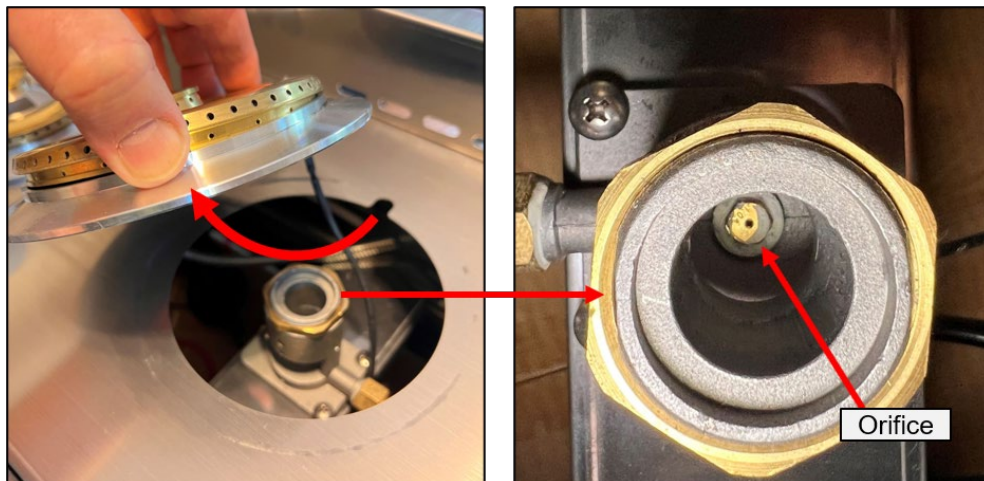

Figure 21 Remove Burner
4. Use a shallow 6mm socket and handle to reach into the burner opening and carefully remove the brass orifice screwed into the end of the valve stem (Figure 21)